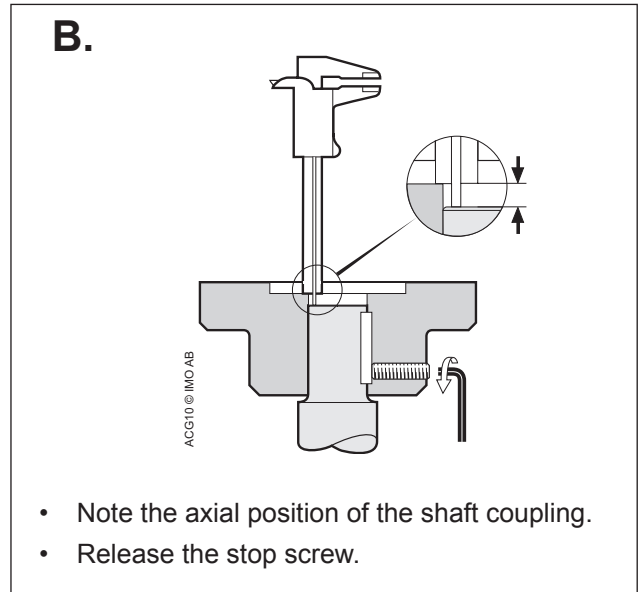

Fig. 7
- Fit the shaft coupling back into place (see fig. 7 and 8) with the same method used when fitting the ball bearing.